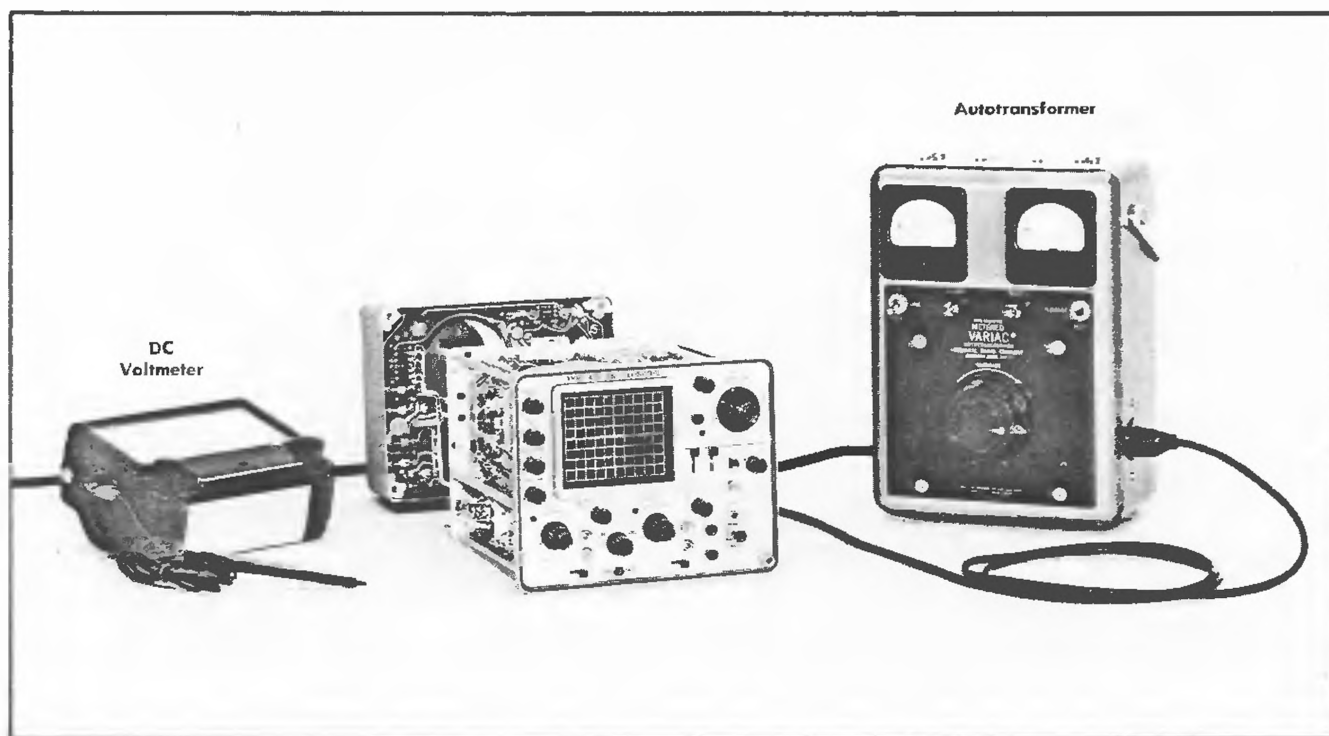

Fig. 6-3. Initial test equipment setup for steps 1 and 2.
- a. Test equipment setup is shown in Fig. 6-3.